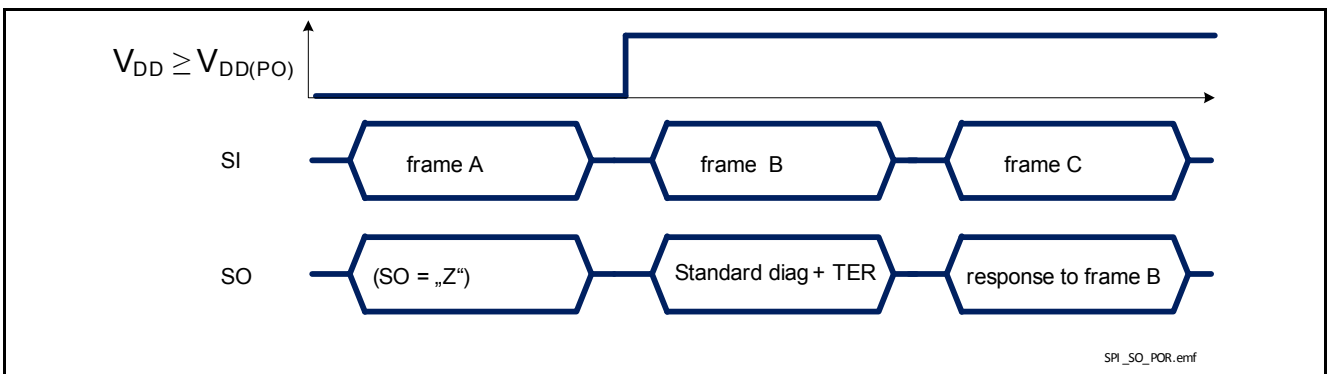

Figure 12-9 TLD5541-1QV response after coming out of Power-On reset at V_{DD}
- when TLD5541-1QV logic supply comes out of an Undervoltage reset condition ($V_{\text{DD}} < V_{\text{DD(UV)}}$) as shown in Figure 12-9 or $\text{EN/INUVLO} < V_{\text{EN/INUVLOth}}$)